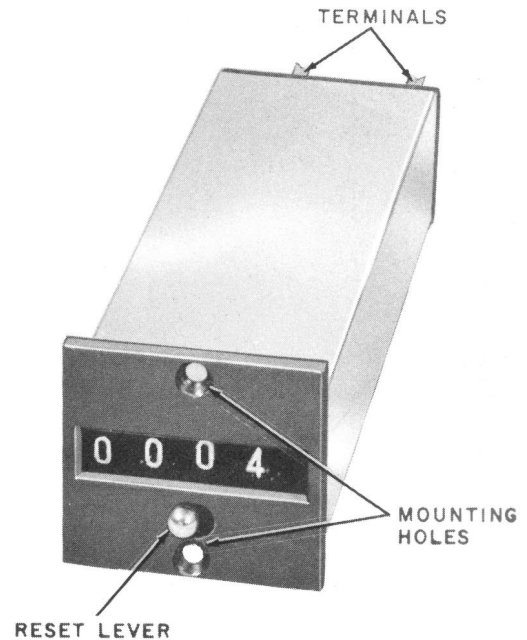

Fig. 1—KS-19798 L1 Magnetic Counter
2.01 These are all impulse type counters which operate on dc pulses. All are designed for manual resetting except the KS-19948, which is not resettable. The KS-19798 L1 counter in Fig. 1 is typical of the impulse types which have the manual reset feature.